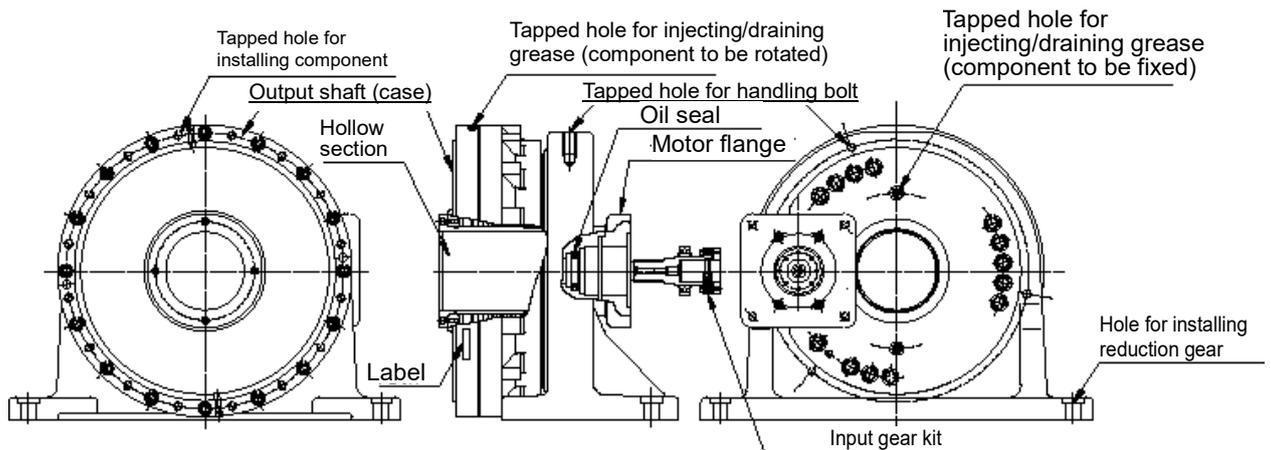

Fig. 2-9
- Prepare the securing component for the type J reduction gear (Fig. 2-9).